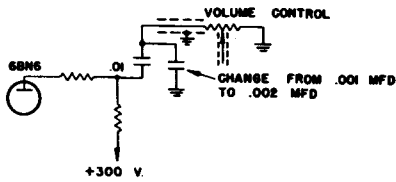

Fig. 43 — Zenith
**Sound Improvement in fringe areas (see Fig. 43).**